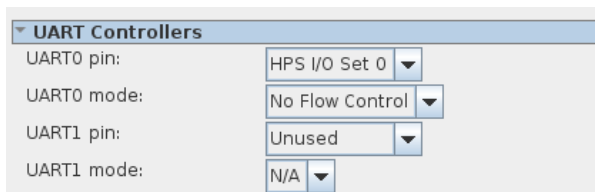

Figure 9-10. UART configuration
- Configure "UART0 pin" to "HPS I/O Set 0" and "UART0 mode" to "No Flow Control", as shown in Figure 9-10.